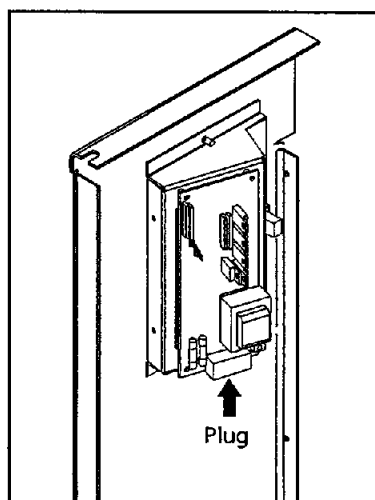

Figure 28: Control Panel Back - Circuit Board.
3. Plug the wiring harness into the control panel (see Figure 28 or 29).